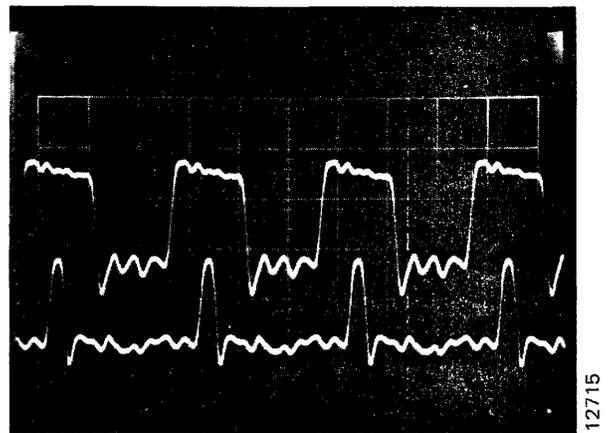

Figure 3-12. Skew One-Shot Display Waveform
19. Set the START/STOP switch to START. The heads should load normally, and a display such as Figure 3-12 should be seen on the scope.